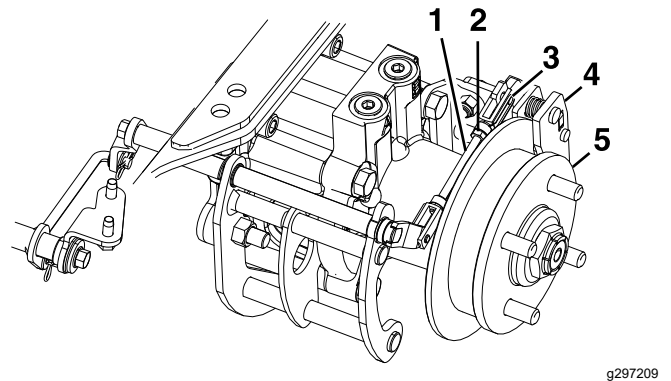

Figure 76
8. Remove the spring clevis pin from the rear linkage and caliper (Figure 76).
12. Tighten the jam nut on the rear linkage (Figure 76).